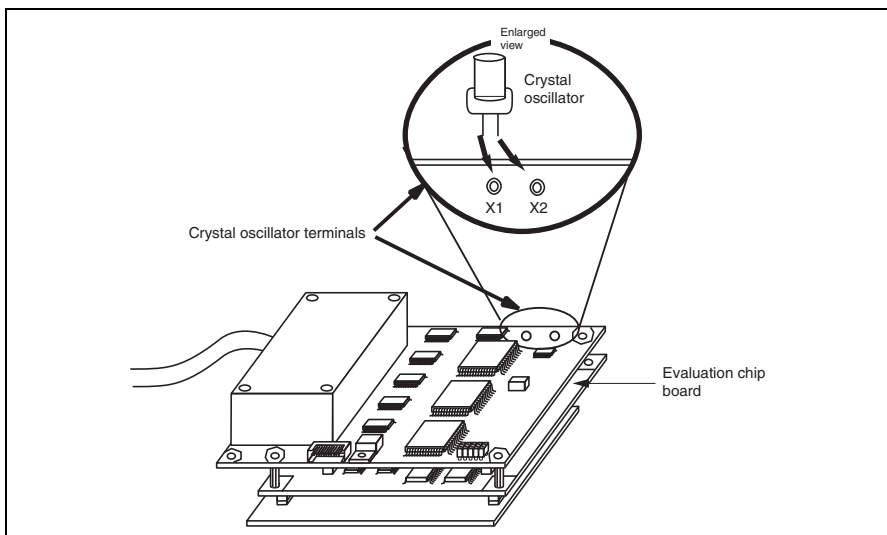

Figure 2.4 Installing the Crystal Oscillator
2. Attach the crystal oscillator into the terminals on the evaluation chip board (figure 2.4).